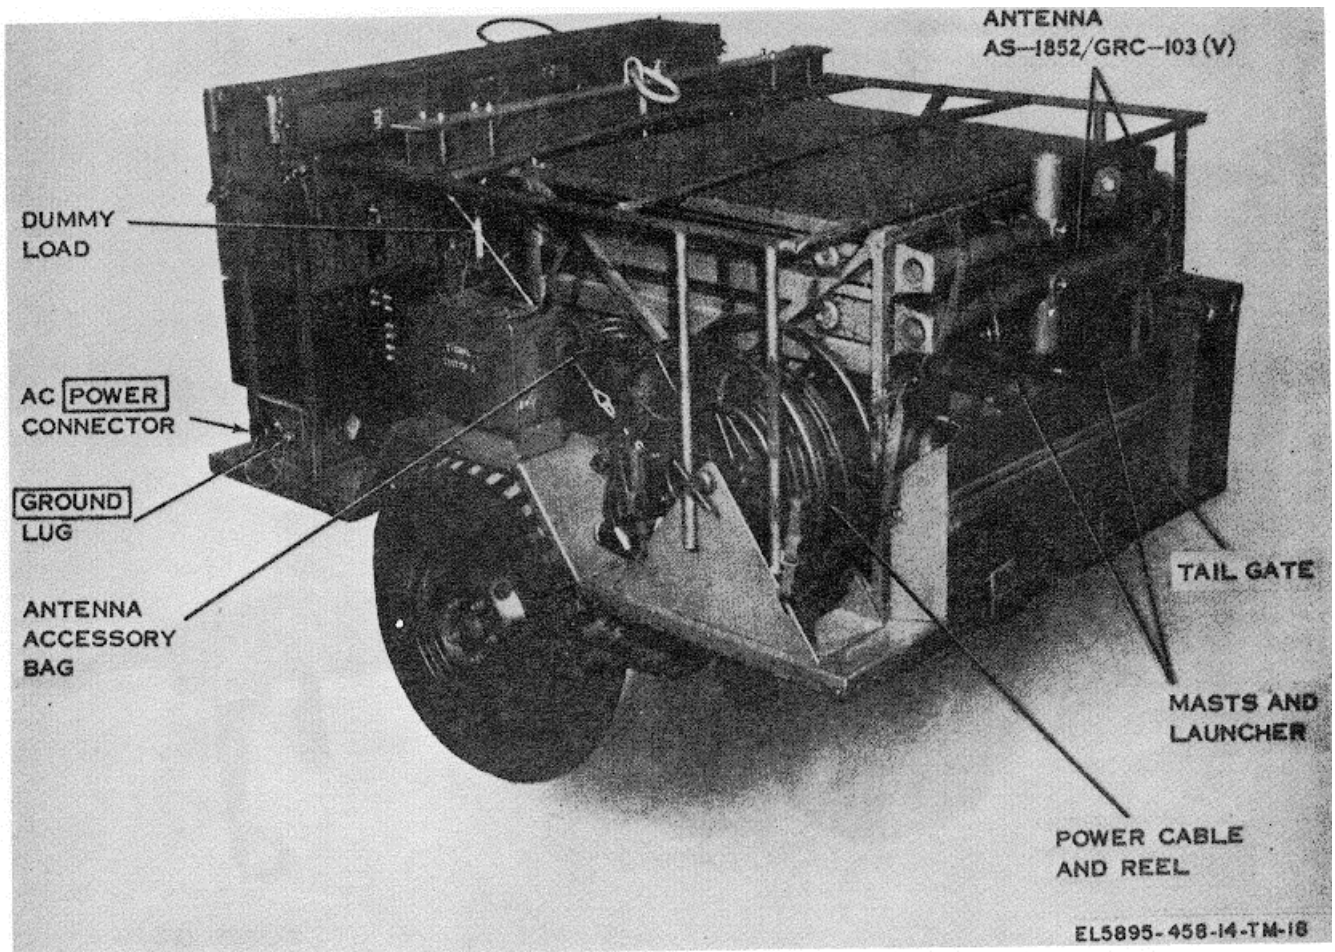
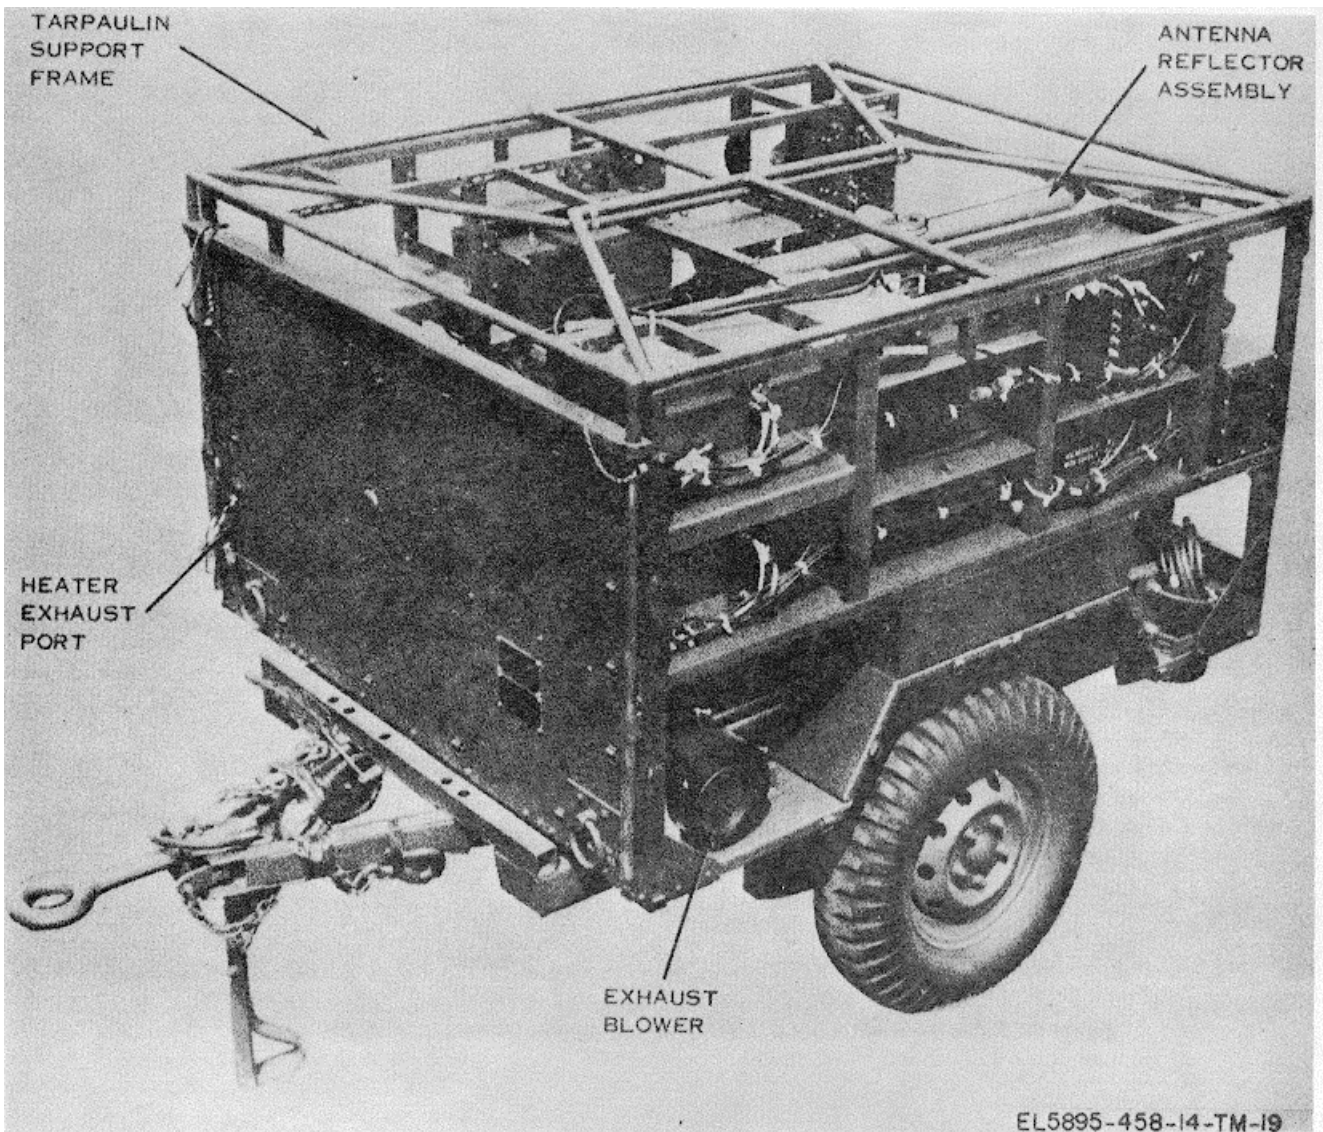

Figure 4-9. AN/MRC-115 (V) trailer, tarpaulin removed, rear roadside view.
Figure 4-13. Radio Terminal Set AN/MRC-126, tarpaulin removed, front roadside view.
a. *Use.* Radio Terminal Sets AN/MRC-126 (fig. 4-9 through 4-12) and AN/MRC-127 (fig. 4-13 and 4-14) provide secure or nonsecure multiplex terminal facilities for forward area pulse code modulation (pcm) communication systems. The equipment in the AN/MRC-126 and the two equipment sets in the AN/MRC-127 can be used as a 6- or 12-channel radio terminal. Although the AN/MRC-126 and AN/MRC-127 are primarily radio terminals, the two equipment sets in the AN/MRC-127 can be used as a 12-channel radio repeater. Refer to figure 6-4 for a typical application of the AN/MRC-126 or AN/MRC-127. Interiors of the AN/MRC-126 are shown in